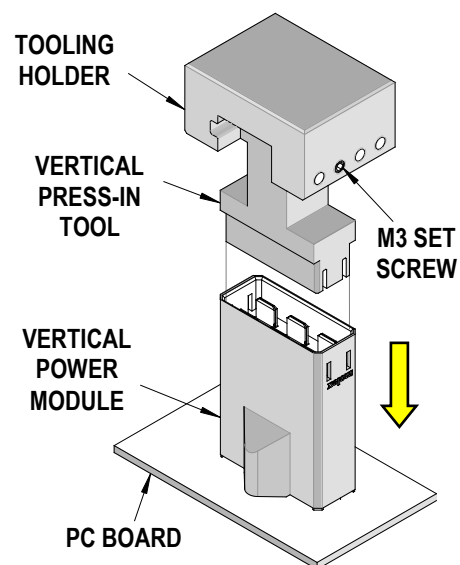

Figure 2-12
- One (1) set screw against modules under 10mm wide
- Two (2) set screws evenly spaced on a 10mm wide power module.
- At least three (3) set screws evenly spaced on a 25mm wide power module.
3. Carefully pre-insert, by hand, the vertical power module(s) into the printed circuit board hole pattern. See Figure 2-12. Make sure the module(s) are oriented properly to the printed circuit board layout.